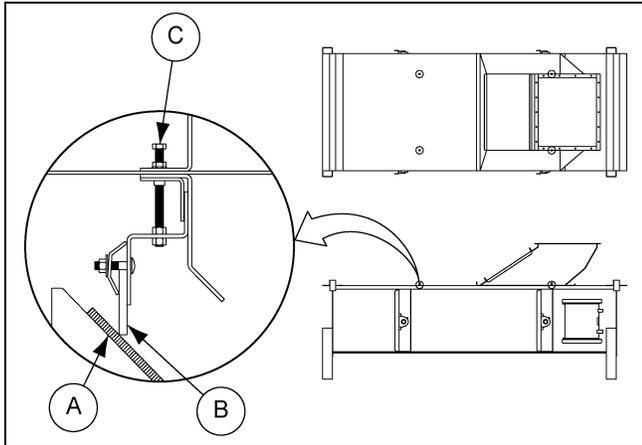

Figure 6A Roller Flo Loader Skirt Adjustment
5. Adjust loader skirt to just above the belt. (See Figure 6A and 6B on Page 51.)